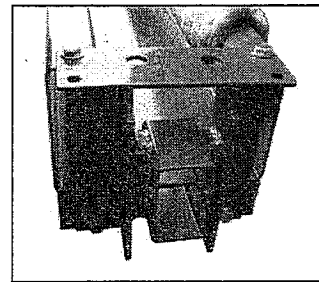

Fig. 5
2. Mount the cylinder base on the top of the column. (Fig. 5)